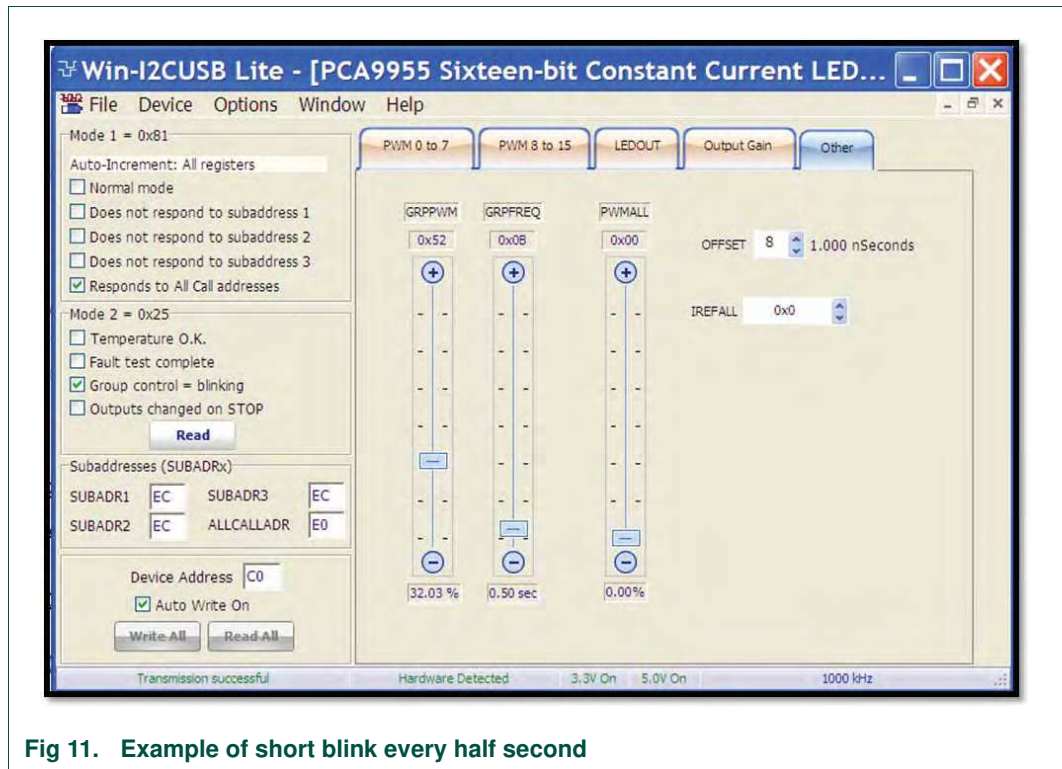

Fig 11. Example of short blink every half second
2. To set a blink cycle, click the 'Other' configuration screen and move the GRPFREQ bar to select blinking frequency as well as the GRPPWM bar to select the duty cycle (see Figure 11).